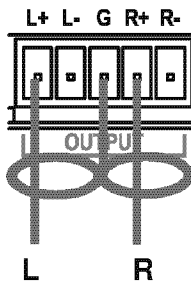

Figure 7: Connecting an Unbalanced VS-3232A Stereo Audio Output
- An unbalanced Stereo Audio Output, see Figure 7